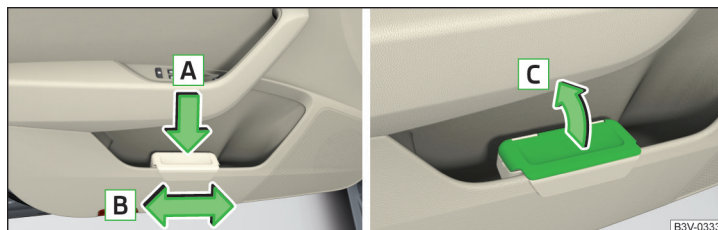

Fig. 112 Waste container: inserting and moving/opening
- Push the waste container in the rear area in the direction of the arrow **A** » Fig. 112.
- Remove the waste container in the opposite direction to the arrow **A** » Fig. 112.
- Lift the cover in the direction **C** » Fig. 112.